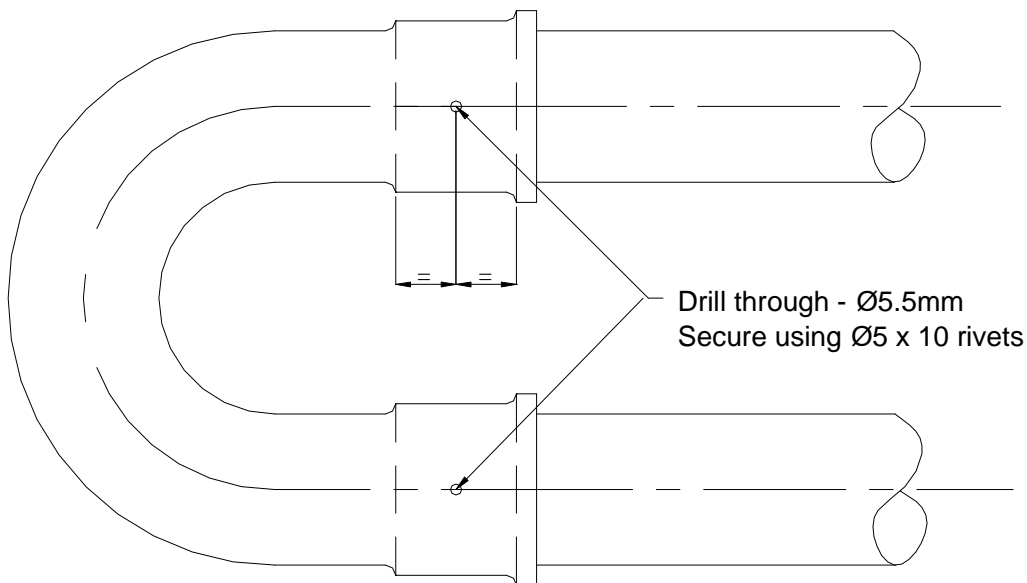

Fig. 19
- 4.4.2 Assemble the U Bend to the short Radiant Tubes, ensuring that the U Bend engages fully. Drill one Ø5.5mm hole through the U Bend and Radiant Tube in the upper surface of each leg of the U bend at a distance midway along the swaged portion of the U bend as shown in Fig 19. Rivet the U Bend to the Radiant Tube assemblies using the two Ø5 x 10 rivets provided (fastenings pack).